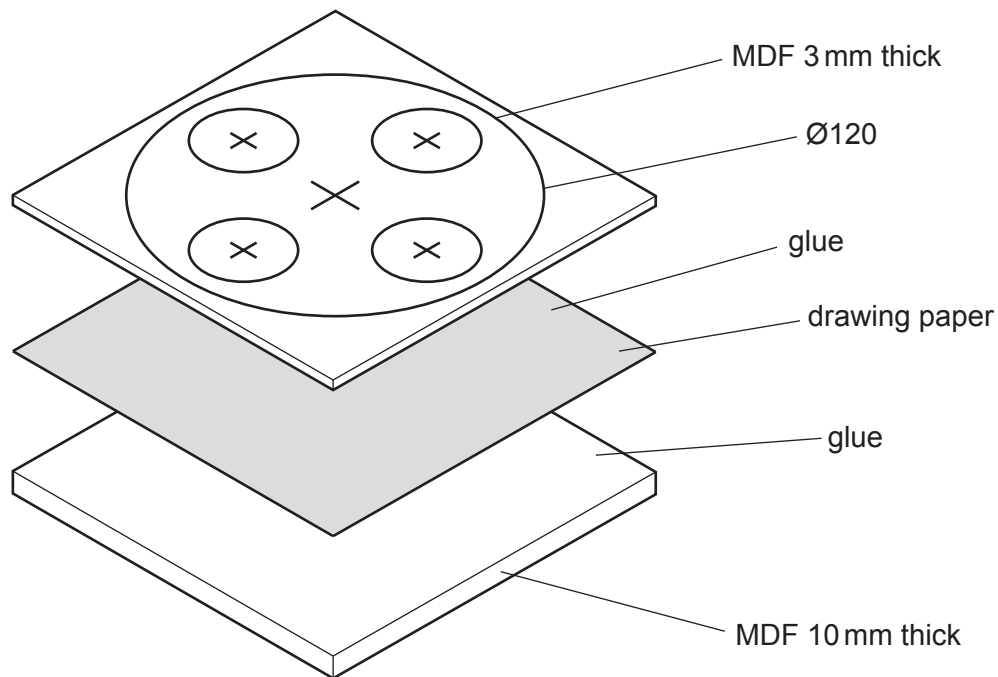

Fig. 12.5
- (e) Fig. 12.5 shows two sheets of MDF from which the disks will be produced. The two sheets of MDF will be glued to each side of a sheet of drawing paper.